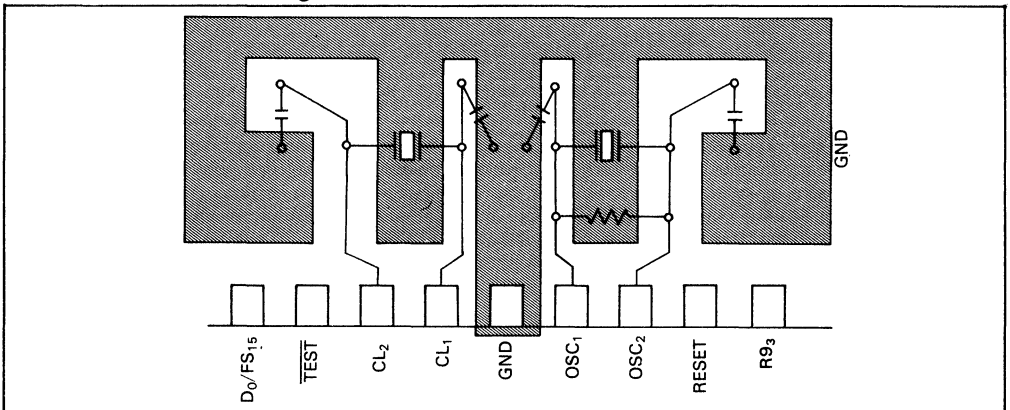

Figure 19. Layout of Crystal and Ceramic Filter
2. Wiring among OSC₁, OSC₂, CL₁, CL₂ and elements should be as short as possible, and never cross other wiring (see figure 19).